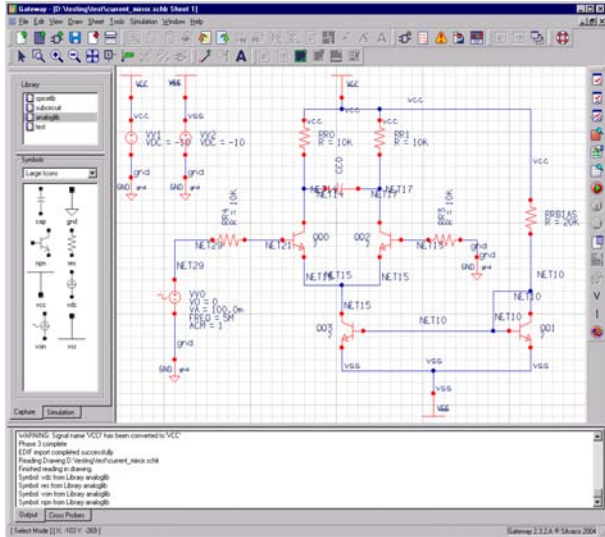

Figure 6. Schematic after Change Symbol is performed.
5. Select Edit->Align Attributes – the drawing should look like Figure 6